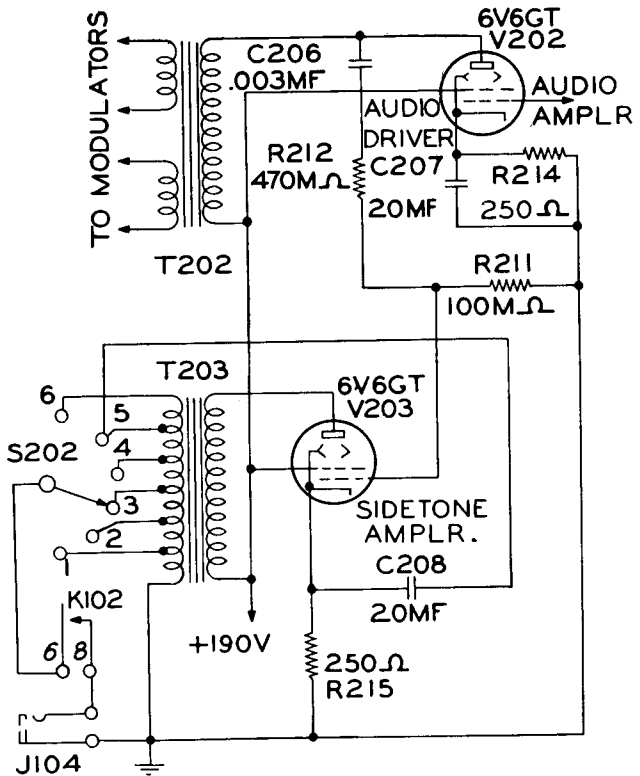

Figure 4-8. Sidetone Amplifier Circuit
c. SIDETONE AMPLIFIER.—A sidetone amplifier is incorporated in the same unit as the two stage speech amplifier. Refer to figure 4-8. This amplifier employs a Type 6V6GT beam pentode tube, V203. The output of the audio driver tube, V202, in addition to being applied to the primary of driver transformer T202, is applied to a voltage divider system consisting of C206, R211 and R212. The grid of the sidetone amplifier tube, V203, is coupled to the junction of R211 and R212 and the voltage developed across resistor R211 drives the grid of V203 to provide sufficient output from the sidetone amplifier to operate headphones or speaker. The output of sidetone amplifier tube V203 is coupled to the SIDETONE jack, J104, by SIDETONE impedance matching transformer T203 through sidetone amplifier OUTPUT control switch S202 and contacts 6 and 8 of keying relay K102. The turns-ratio of SIDETONE impedance matching transformer T203 may be varied by operating the sidetone OUTPUT switch S202. The output of the sidetone amplifier is keyed by the